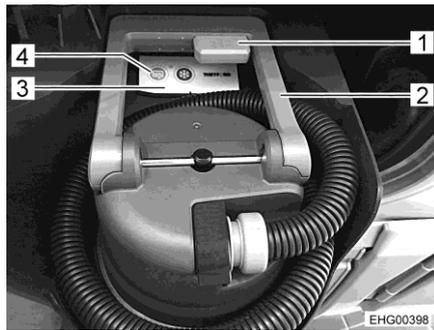

Fig. 153 Emptying module
The black water tank and grey water tank are emptied together via the emptying module (Fig. 153). The toilet, grey water tank, and black water tank are also flushed automatically at the same time.
- Pull the handle (Fig. 153,2) of the emptying module upwards.
- Press button (Fig. 153,1) on the handle (Fig. 153,2) to open the emptying module.
- Press the blue emptying button (Fig. 153,4) on the operating panel (Fig. 153,3). The emptying process begins.
- Wait until the waste water has been completely pumped out. The emptying process is complete when the blue emptying button (Fig. 153,4) is no longer illuminated.
- Press the button (Fig. 153,1) again to close the emptying module.
- Fold in the handle (Fig. 153,2).
- ▷ If the handle cannot be folded in, the emptying module may still be open. In this case, press the button (Fig. 153,1) again.